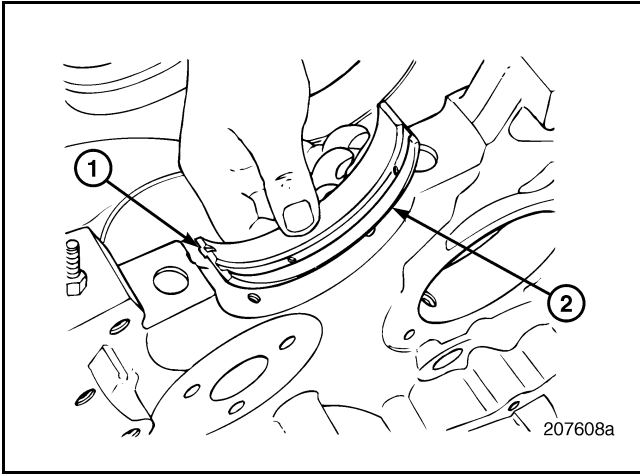

Figure 232 — Main Bearing Insert (Upper)
3. Place the upper half of the bearing insert (2) in the cylinder block main bearing bore, making sure that the locating tab (1) fits into the notch in the bore (Figure 232).